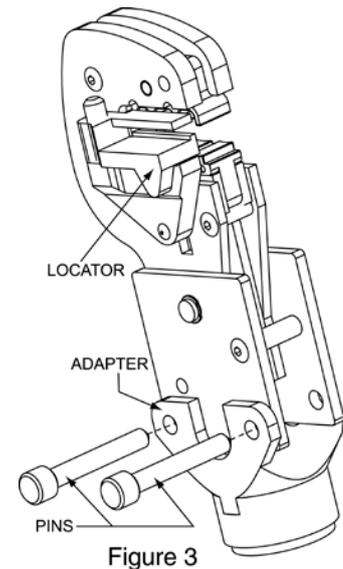

Figure 3
4. Before installing different crimping head, slide the crimping dies to the full open position. Lock the head with the locating pins (see Figure 3), paying attention that the pins are locked securely before starting.
1. The Locator shall be used to assist in positioning the product to be crimped (see Figure 3 above).